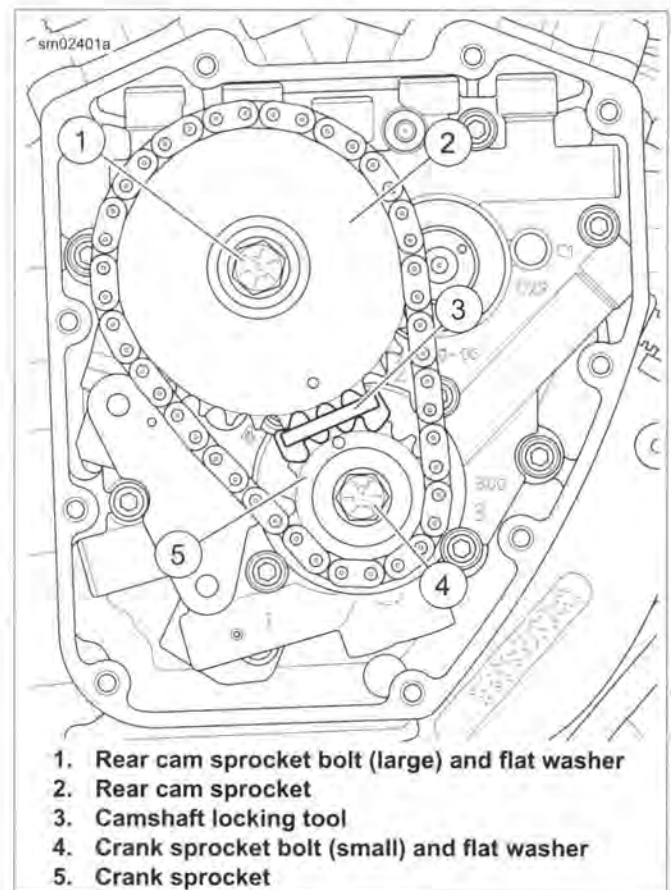

Figure 3-81. Cam Support Plate Assembly
3. See Figure 3-81. Install CRANKSHAFT/CAMSHAFT SPROCKET LOCKING TOOL (Part No. HD-47941) between rear cam sprocket (2) and crank sprocket (5).